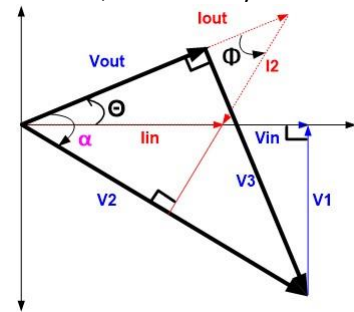

Figure 13: I_1 Reactance Changes Phasor Diagram
Let's examine α in (19), (20), and (21). α will always be less than 90° . **Figure 13** shows α is an angle in right Δ ; therefore, I_{out} will always lead V_3 resulting in X_3 always being a capacitor. V_2 will always lead I_2 . Thus, X_2 will always be an inductor.